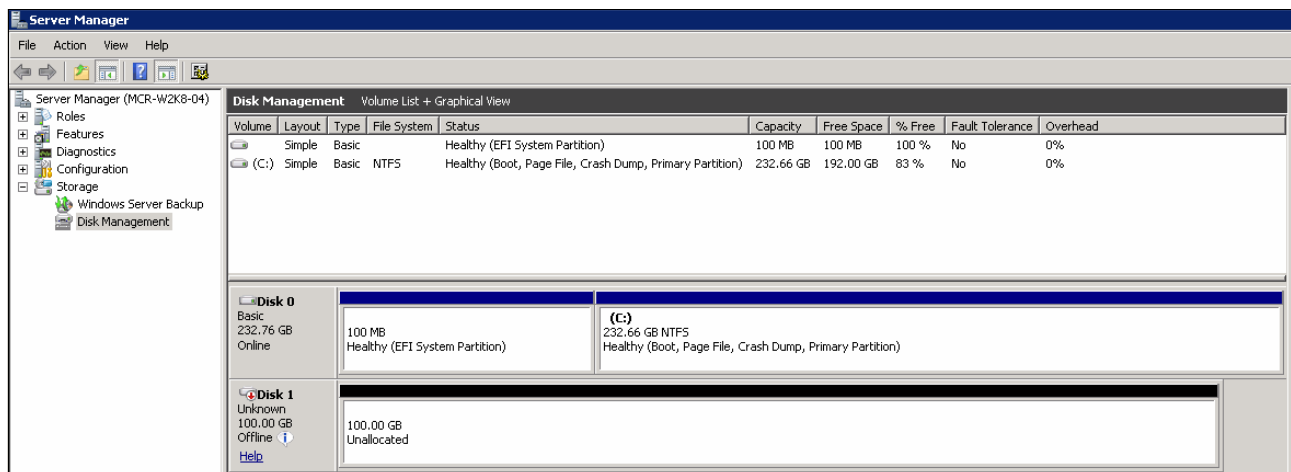

Figure 5-60 Windows Disk Management
5. Open the Windows Disk Management window (as shown in Figure 5-60) by clicking **Start** → **Run**, entering `diskmgmt.msc`, and then clicking **OK**.